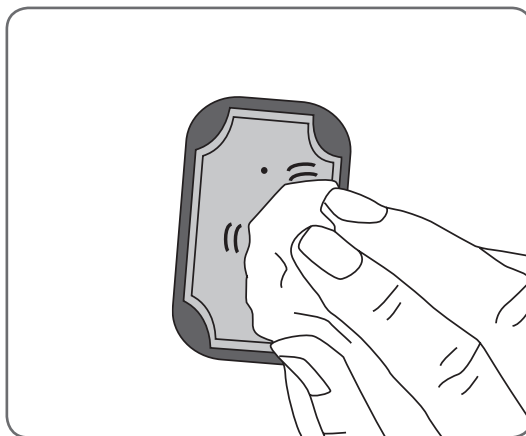

Figure 8-5: Blotting the cloth electrodes.
4. Blot excess water from the cloth electrodes. See Figure 8-5.